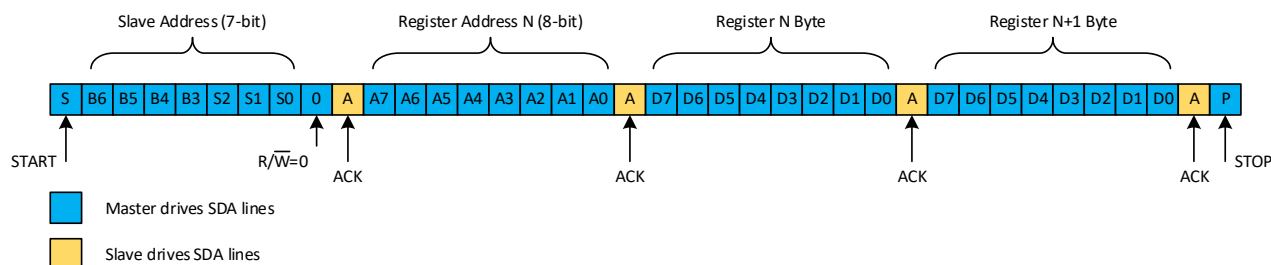

Figure 29: I²C Write Burst
- To write in the following register, the controller shall send the 8 bit value to write in it (Figure 29).